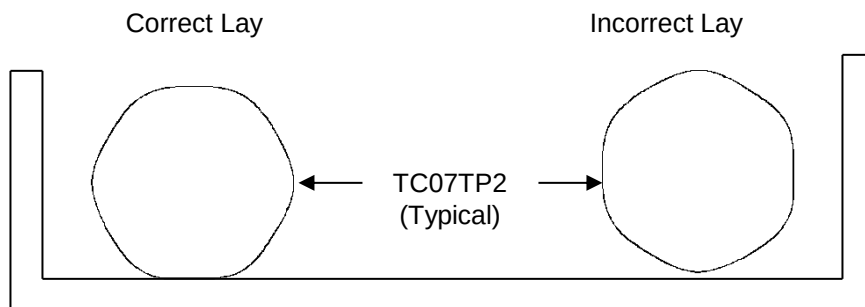

Figure 5
10.7 Always place the flat surfaces of TP2 tubes cables down so they do not rest on their points. **See Fig. 5.**